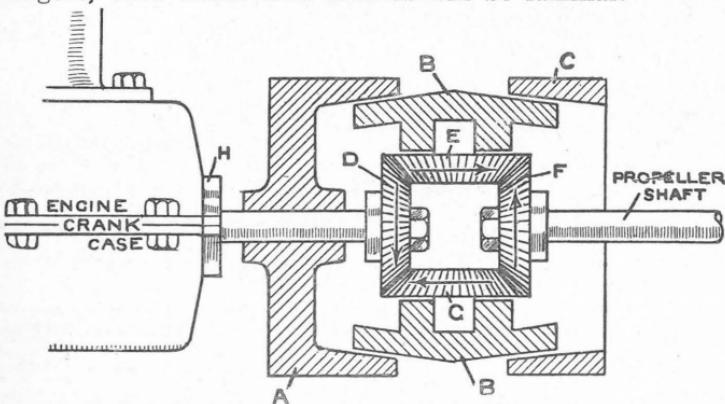

Fig. 4.—Double cone clutch and differential reverse gear.
We now come to a different kind of gear, in which clutch and reverse gear are combined and worked by a single lever. Fig. 4 shows a diagram of the arrangement. There is the cone clutch shown in Fig. 1, the flywheel (A) being faced internally, and there is the other cone member (B) is tapered each way. If moved to the left it engages with A ; if moved astern, that is to the right, it engages with another cone (C), which, however, is fixed in the boat so that B is held fast when engaged with it. Inside B are four bevel gear wheels (D, E, F, G), all meshing together as shown. D can slide on a squared portion of the engine shaft, E and G are free to revolve, but are carried by the double cone (B) and rotate with it. F is keyed to the propeller shaft.